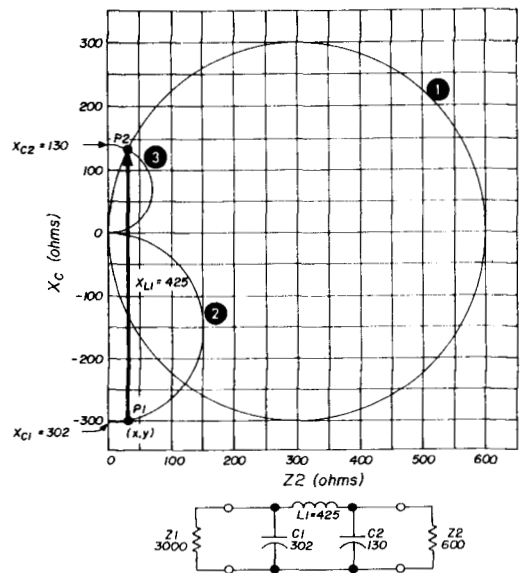

fig. 8. Solution to problem 1: matching  $3000 + j0$  ohms to  $600 + j0$  ohms with a pi network. Arrows indicate impedance path.
1. Draw a 600-ohm circle (1), **fig. 8**.